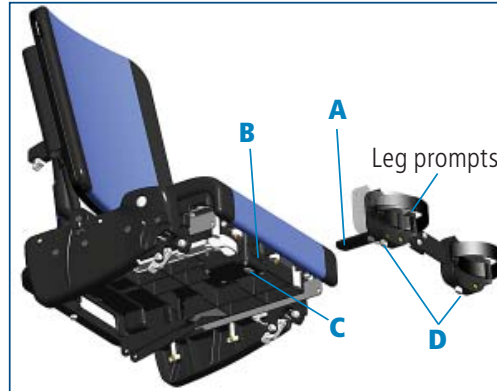

Figure 28a
To install leg prompts, insert leg prompt post (A) into slot (B) centered directly beneath front of seat. Reach below slot and depress leg prompt button (C), in order to insert leg prompt post fully into slot (see Figure 28a).
To adjust width of leg prompts, depress white width buttons (D) located on plastic housing behind leg prompt straps. Move leg prompts closer or farther apart, then release buttons when desired setting is achieved, making sure prompts click into place (see Figure 28a).